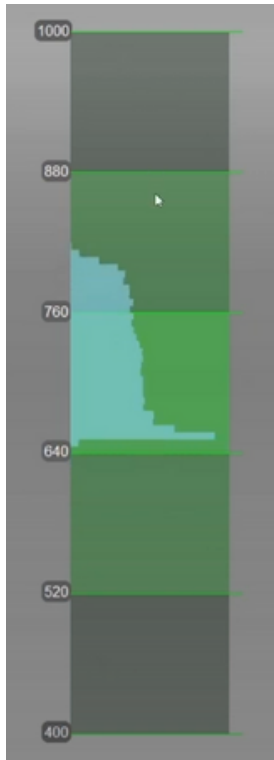

Figure 10. Distance meter
3. The first thing to check is the distance meter on the left side of the screen (Figure 10). At this point, adjust the position of the object to achieve the correct distance between the scanner and the object. As you move farther away, the distance meter will approach 1000. When the object is closer, the waveform (light green in the image) will move closer to 400 on the meter. It's important to keep the waveform within the central range of 640 to 880.